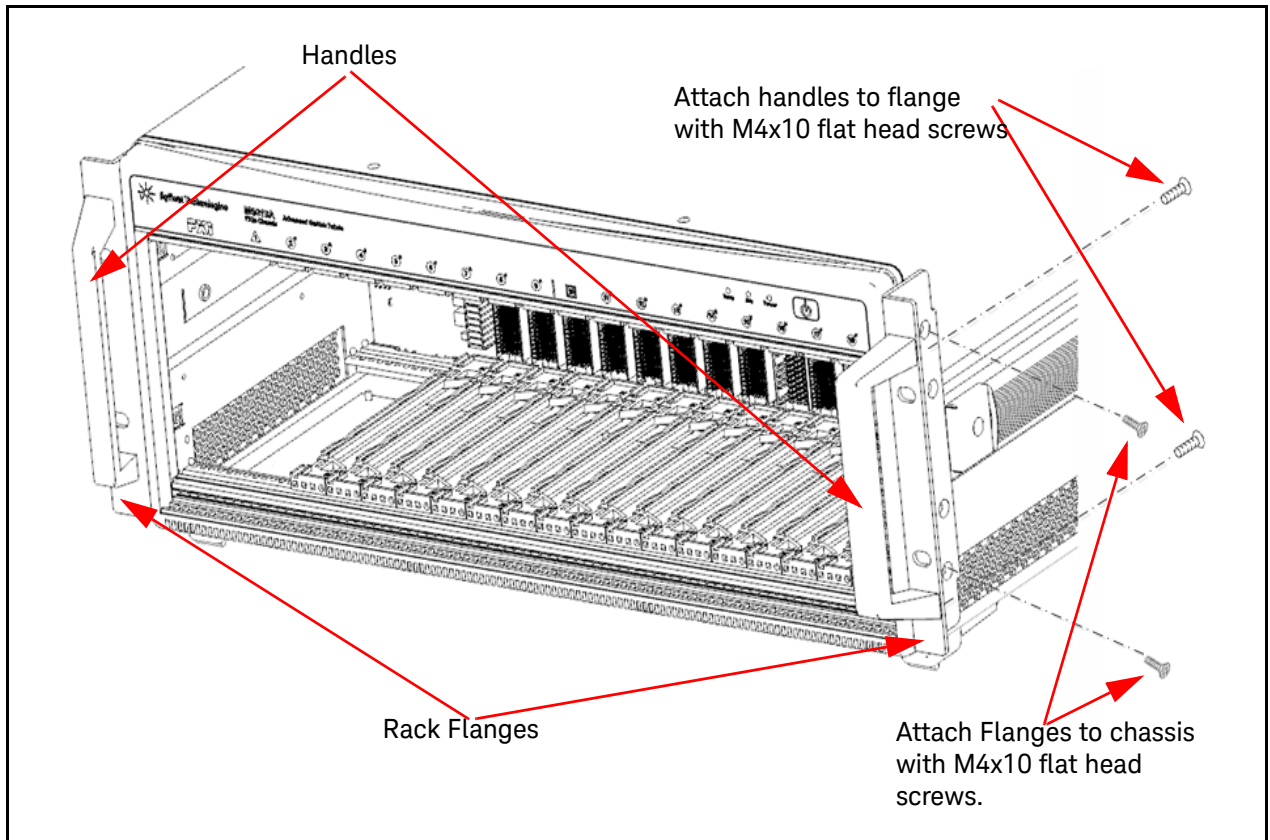

Figure 3 Attaching Handles and Rack Mount Flanges to M9018A Chassis
4 Optional Step. Attach the handles to the rack mount flanges using the 10-32 x 0.375 flat head screws. Refer to Figure 3.
- 5 Attach the rack mount front handle flanges to the chassis. Refer to Figure 3.